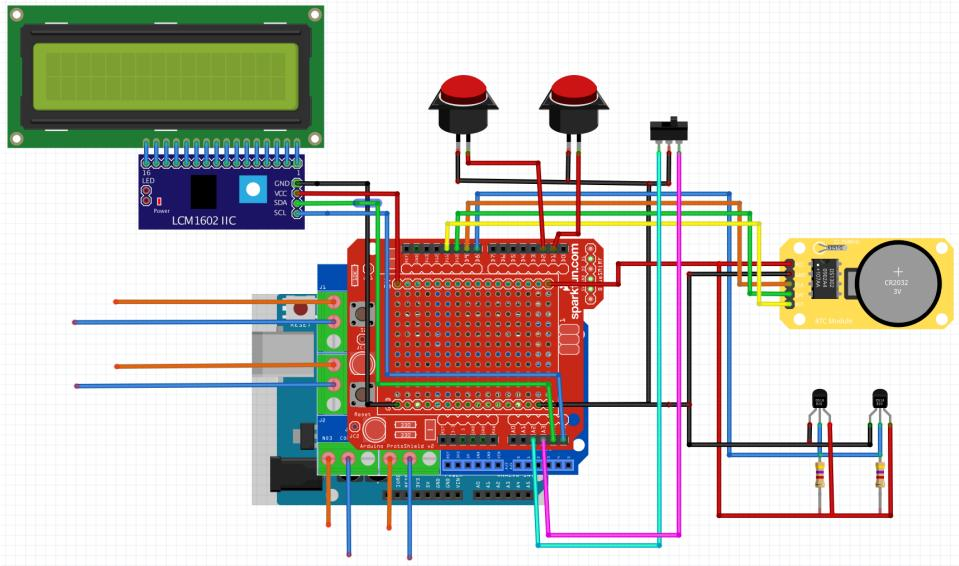

Figure 4: Schematic diagram of Arduino connections
The connection diagram for the Arduino setup integrates various components such as the real time clock DS1302N, the I2C 20x4 LCD screen, the two DS18B20 temperature sensors, the two push buttons, and the 3-position switch, the relay shield and the Proto shield for easy soldering. The Figure 4 gives a representation of the whole electronical system. In this configuration, pins 4-7 are reserved for the relay shield, with each relay assigned to a specific pin. Pins 2 and 3 are utilized for Arduino interrupts, allowing the push buttons to change the desired times without needing to be in the loop at the exact moment of pressing. The Normally Open (NO) and Common (COM) entries are connected with the power supply: 12V goes to COM, and NO goes to the fans or LED strips. The grounds (GND) of the fans and LED strips are directly connected to the 12V transformer's GND. The Arduino Uno, relay shield, and Proto shield are stacked together for compactness, though for better visualization, they are shown separately in the sketch.